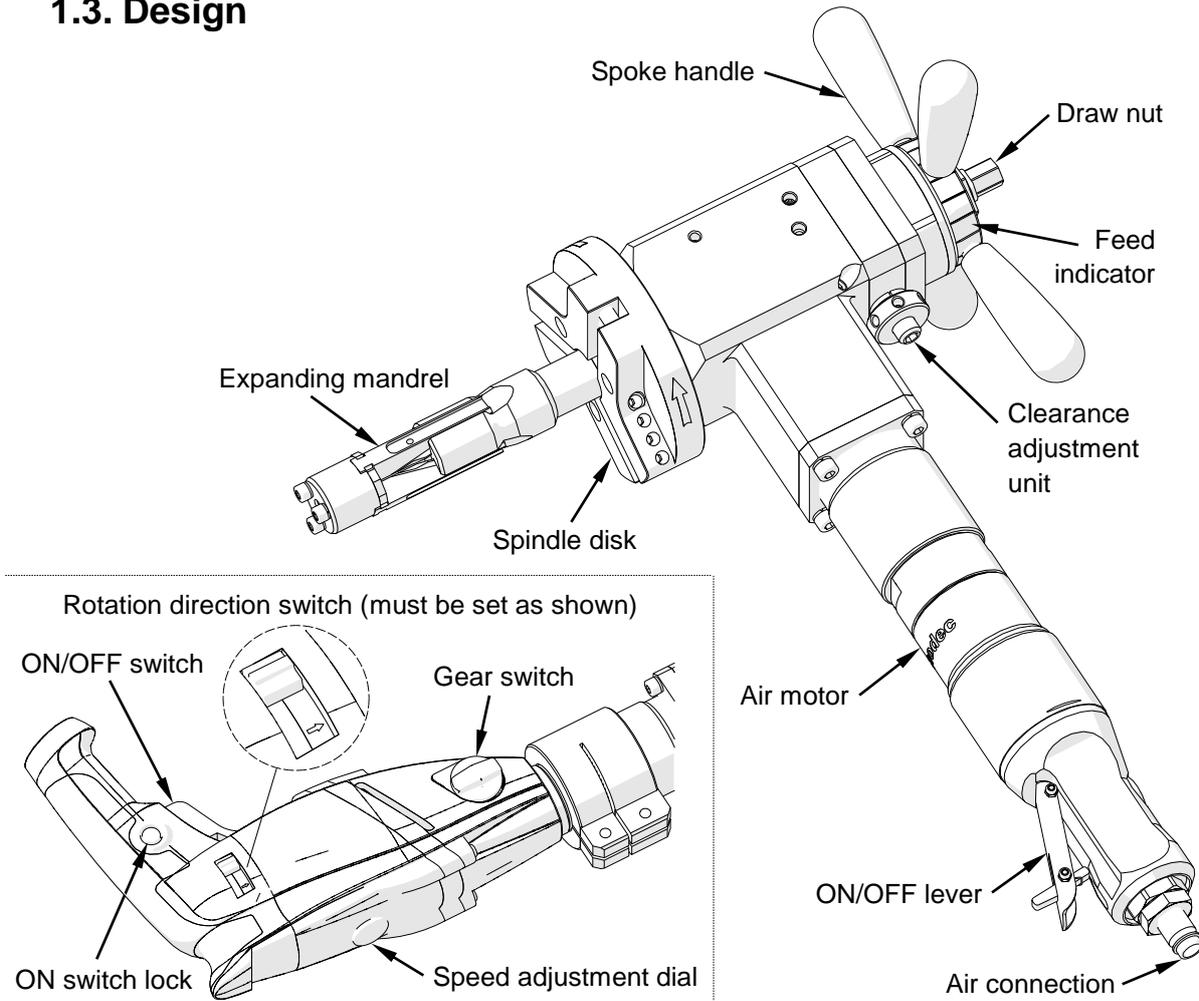

Fig. 1. View of PB-5 and of PBE-5 electric motor
20. Operate the machine with electric motor only when the rotation direction switch is set to the position shown in Fig. 1. Using left rotation (rotation direction switch set to the opposite position) may damage the machine.
To install the electric motor, slide the clamping ring 4 onto the machine. Then, screw the driver (5) into the motor and insert the motor into the machine (6) by placing the arbor in the socket 2, and tighten the clamping ring using the 6 mm hex wrench (7). Finally, set the rotation direction switch to the position shown in Fig. 1.